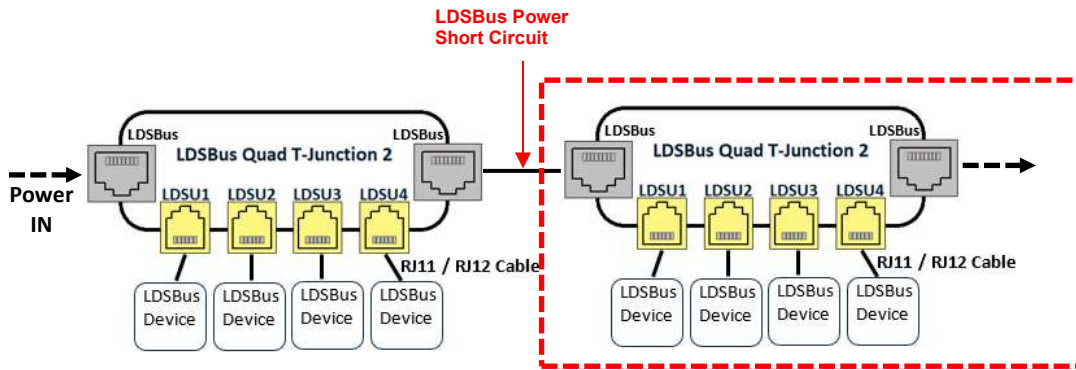

Figure 6 - Short Circuit at LDSBus Power
- Power will be cut off only from the point of the encountered short circuit and for any subsequent LDSBus Quad T-Junction 2 devices (**indicated by a dotted line in Figure 6**).